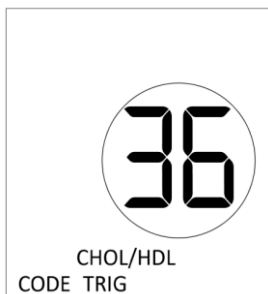

Fig 5.44
- In test mode screen, press right button to enter report query interface. Refer to Fig 5.44, “36” indicates that the Meter has tested 36 records of tests.